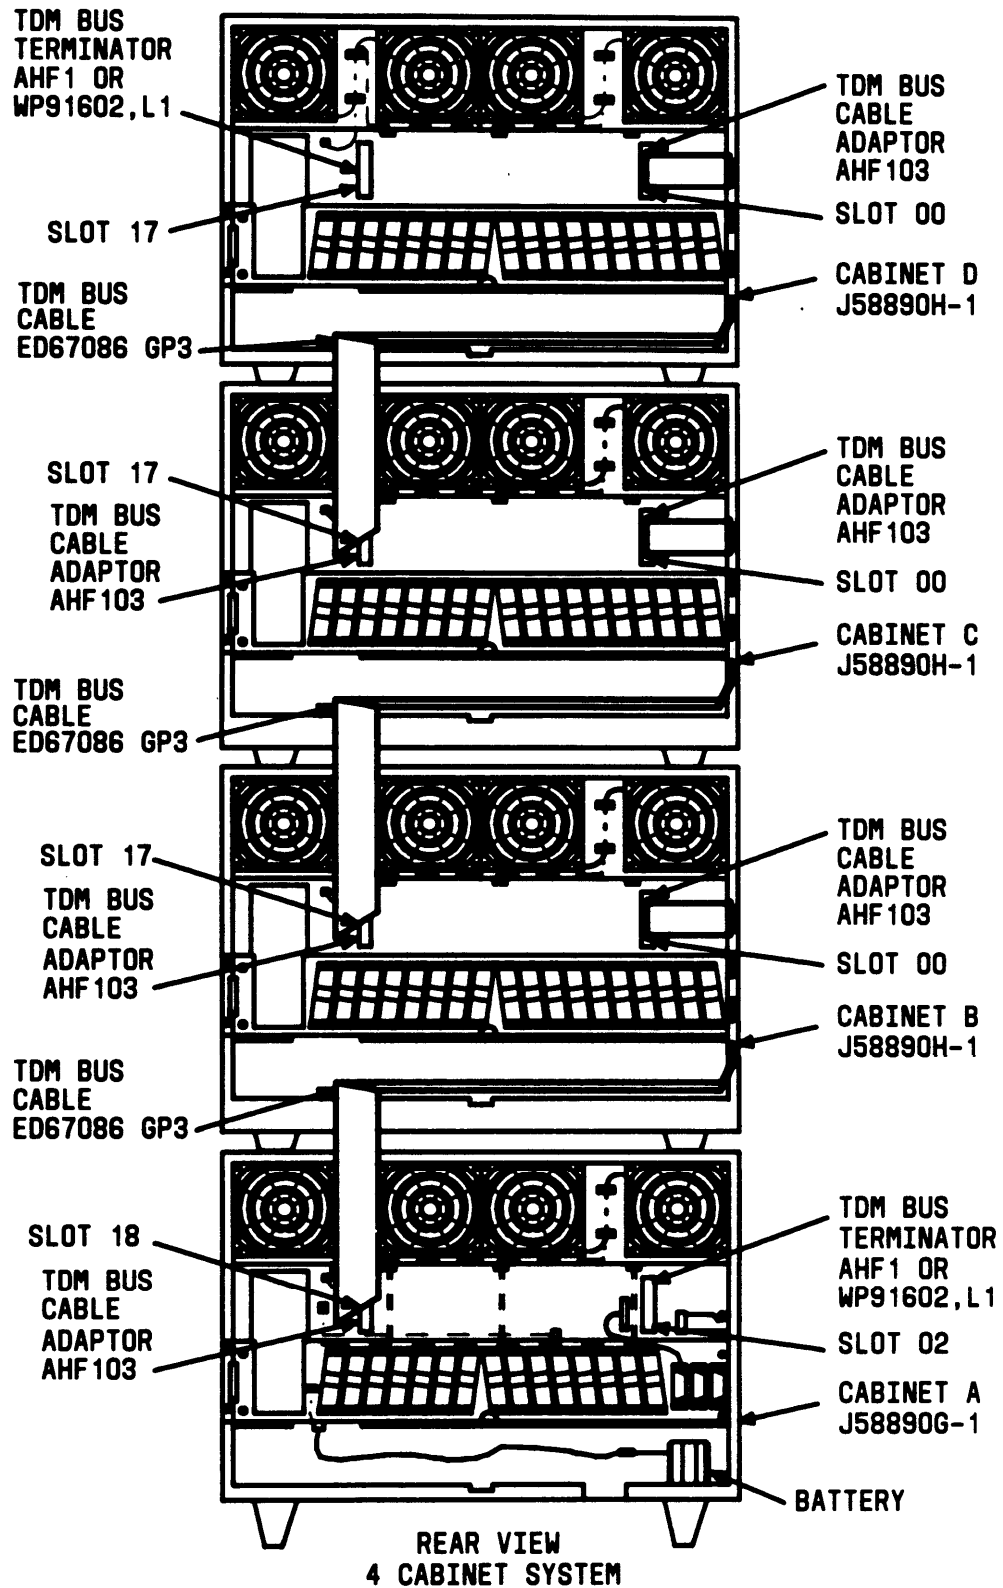

Figure 39. TDM Bus Connections
2. Disconnect Time Division Multiplex (TDM) bus terminator (Figure 39) from slot 18 of the control cabinet of slot 17 of the port cabinet. Move to slot 17 of the top port cabinet.
3. Connect TDM bus cables (see Figure 39). The TDM bus cable is located behind the lower rear panel.